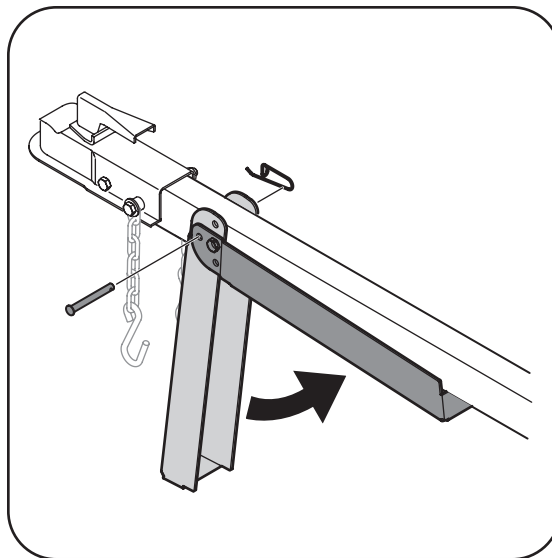

Figure 4-4
3. Support the tongue and pivot the jack stand up against the tongue. See Figure 4-4.
4. Secure with the spring clip and clevis pin previously removed. See Figure 4-4.